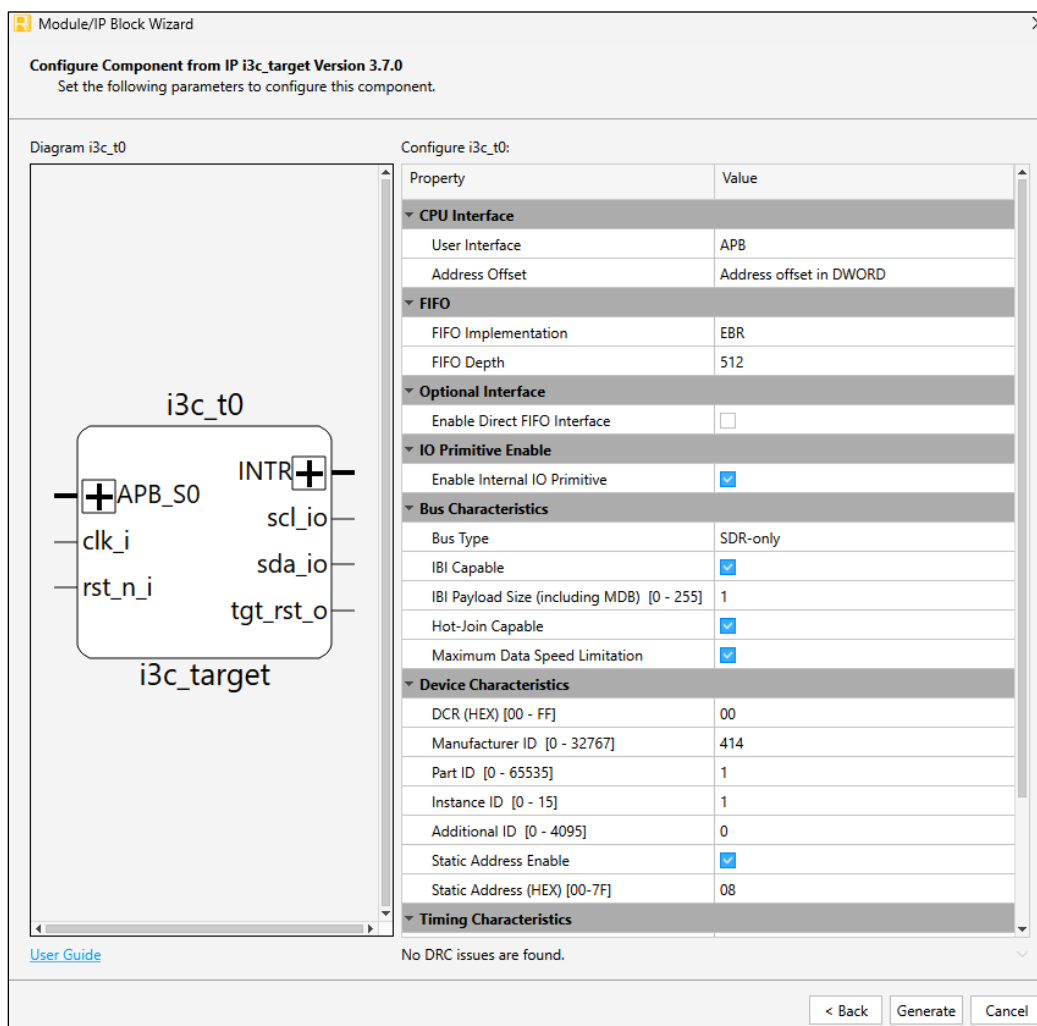

Figure 7.2. IP Configuration
3. In the next **Module/IP Block Wizard** window, customize the selected I3C Target IP using drop-down lists and check boxes. Figure 7.2 shows an example configuration of the I3C Target IP. For details on the configuration options, refer to the IP Parameter Description section.